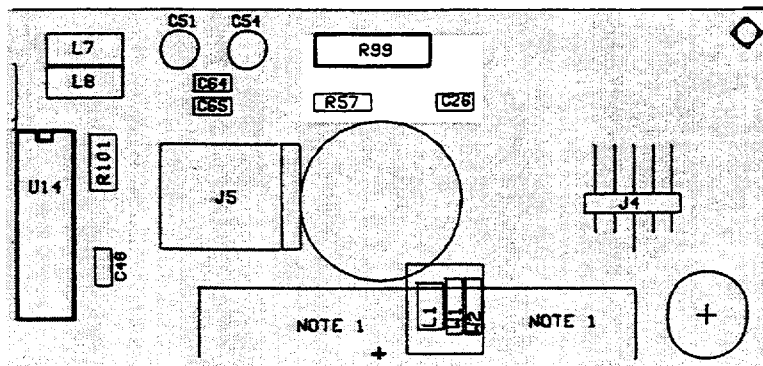

Figure 8-9. R57-C26 Junction Location
18. Verify that the dc voltage from the AUTO-ZERO DAC at the junction of R57 and C26 (see Figure 8-9) is between ± 15 mV.